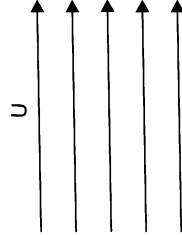

Fig. 5.31
**5.13.2 Uniform Potential Flow Parallel to y-Axis.** Fig. 5.31 shows the uniform potential flow parallel to y-axis in which  $U$  is the uniform velocity along y-axis.